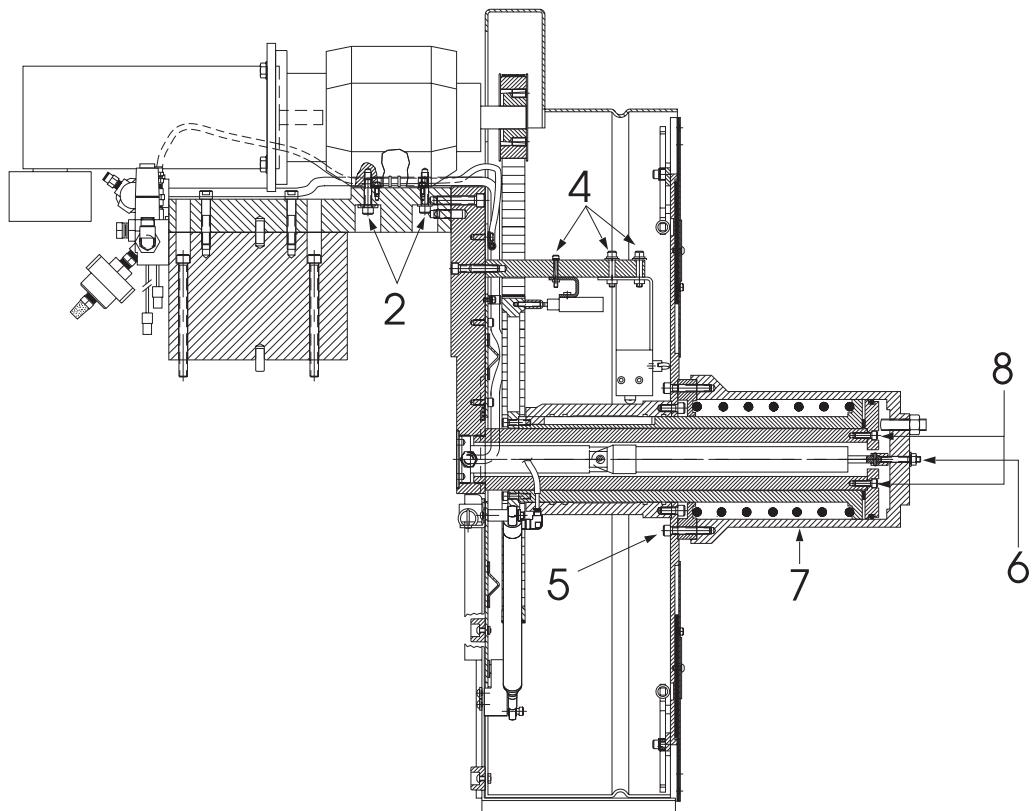

Figure 8-3. Carousel replacement.
6. Remove the four SHCS that mount the gearbox to the top mounting plate. (Fig. 8-3 #2)
8. Remove the four SHCS that secure the (2) switch brackets and place them clear of the large pulley (Fig. 8-3, #4).
11. Remove the six SHCS that mount the cylinder cap to the carousel. (Fig. 8-3, #5)
12. Remove the hex nut that attaches the shock absorber to the cylinder cap (Fig 8-3, #6)
14. Remove the six SHCS that attach the locking cap to the shaft assembly(Fig 8-3, #8)
4. Install the locking cap. (Fig. 8-3, #8)
6. Install the shock absorber nut. (Fig. 8-3, #6)
7. Install the six SHCS that attach the cylinder cap to the carousel.(Fig. 8-3, #5)
10. Install the switch bracket and four SHCS. (Fig. 8-3, #4)
12. Install the four SHCS that mount the gearbox to the top mounting plate. (Fig. 8-3, #2))